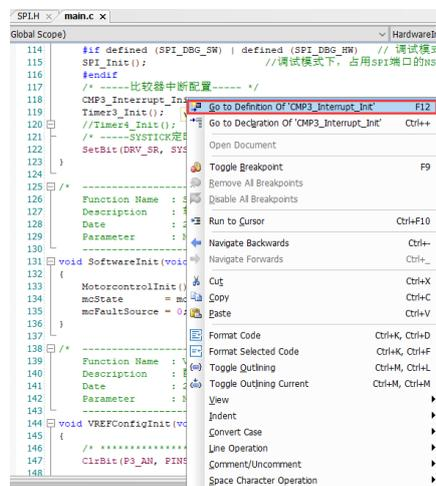

Figure 3-1
14. Jump to a function definition. You can move the mouse onto a function, right click and select "Go to Definition Of 'XXX'" to jump to the definition of the function. As shown in Figure 3-1, right click and select "Go to Definition Of 'CMP3_Interrupt_Init'" to jump to its corresponding function definition, as shown in Figure 3-2.